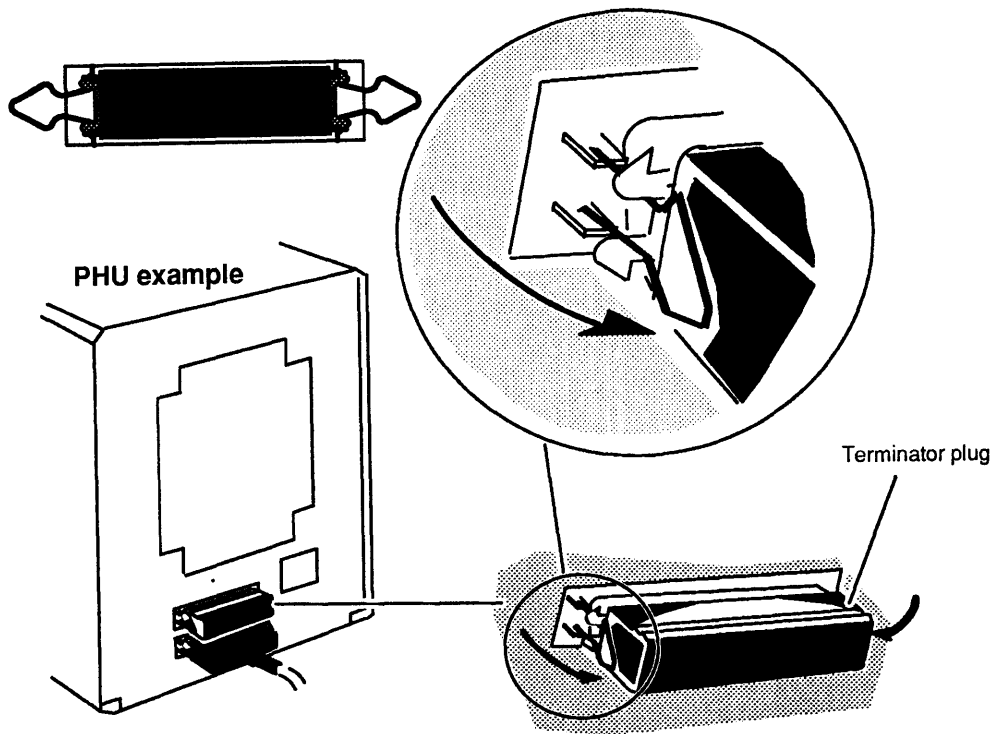

Figure 2–15 Connecting and Securing the SCSI Bus Terminator Plug
8. Push the spring clips attached to the SCSI connector straight up into the brackets on the terminator plug, as shown in Figure 2–15. Your vertical pressure will push the clips into place and secure the plug; do not squeeze or pull the clips out of shape.